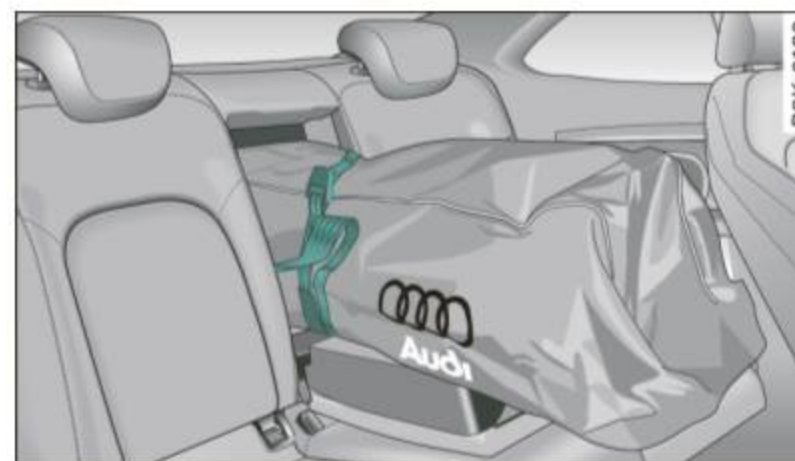

Fig. 97 Securing the objects in the ski sack
- Pull the safety belt taut ⇒ fig. 97 at the free end of the belt.